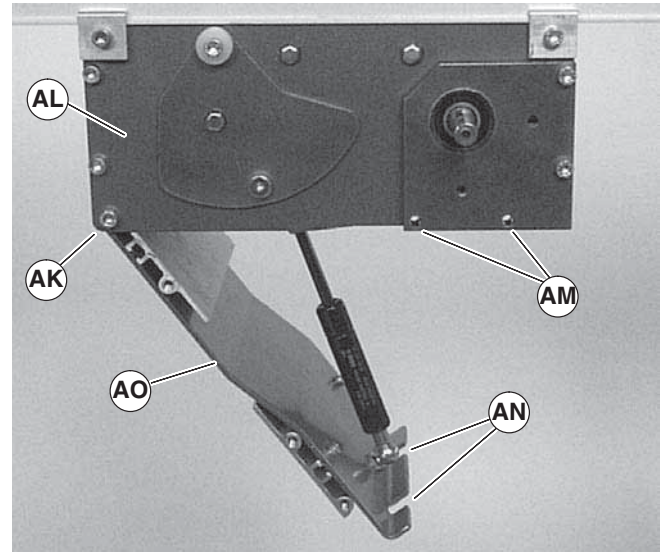

Figure 16
3. Loosen corner screws (Figure 16, item AK), on each side of the drive module (AL).